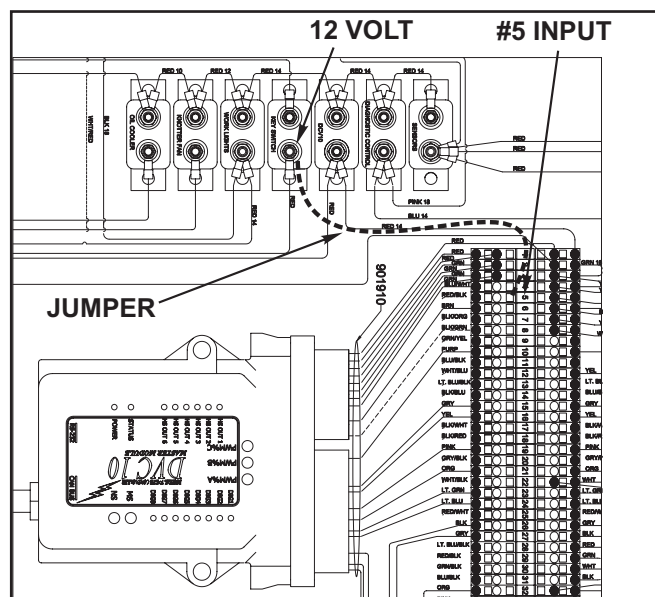

Figure 96 - Twine Needle Yoke in Home Position
6. Use a jumper wire and connect one end to a 12 volt supply. Connect other end to input number 5 on DVC-10 (see Figure 96).